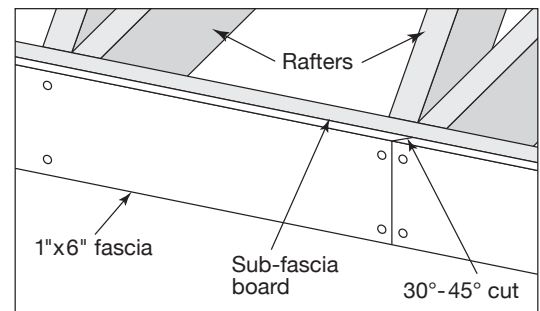

Fig. 6
- When using TruExterior Trim as fascia, a sub-fascia of equal width is required (**Fig. 6**)